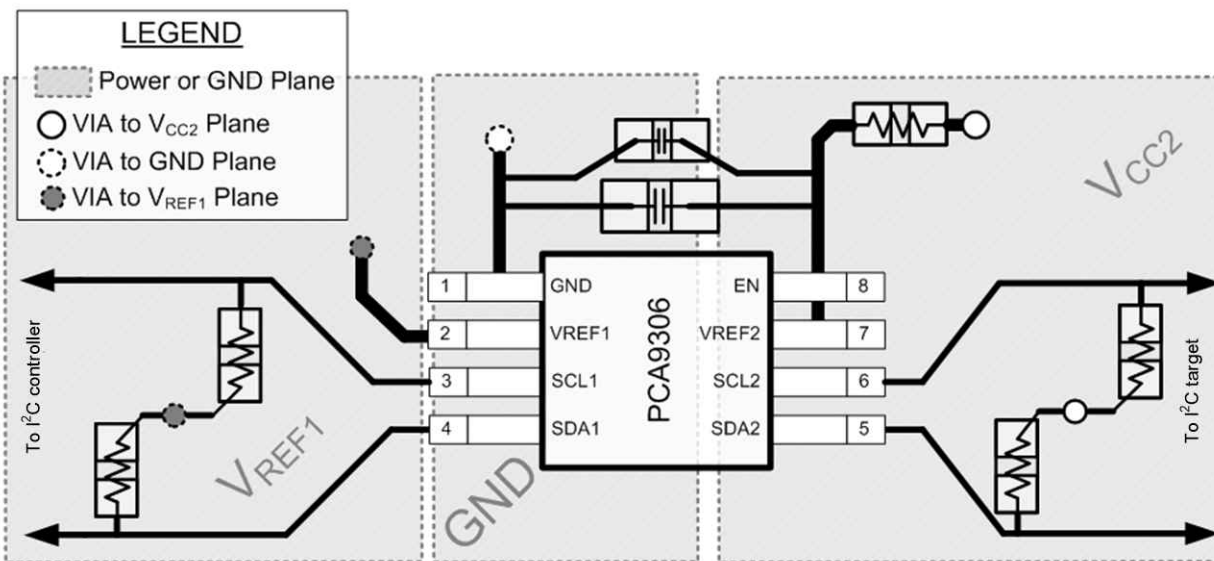

图 11-1. PCA9306 Layout Example
In all PCB layouts, it is a best practice to avoid right angles in signal traces, to fan out signal traces away from each other on leaving the vicinity of an integrated circuit (IC), and to use thicker trace widths to carry higher amounts of current that commonly pass through power and ground traces. The 100-pF filter capacitor should be placed as close to V_{REF2} as possible. A larger decoupling capacitor can also be used, but a longer time constant of two capacitors and the 200-k Ω resistor results in longer turnon and turnoff times for the PCA9306 device. These best practices are shown in 图 11-1.
For the layout example provided in 图 11-1, it would be possible to fabricate a PCB with only two layers by using the top layer for signal routing and the bottom layer as a split plane for power (V_{CC}) and ground (GND). However, a four-layer board is preferable for boards with higher-density signal routing. On a four-layer PCB, it is common to route signals on the top and bottom layer, dedicate one internal layer to a ground plane, and dedicate the other internal layer to a power plane. In a board layout using planes or split planes for power and ground, vias are placed directly next to the surface-mount component pad, which must attach to V_{CC} or GND, and the via is connected electrically to the internal layer or the other side of the board. Vias are also used when a signal trace must be routed to the opposite side of the board, but this technique is not demonstrated in 图 11-1.